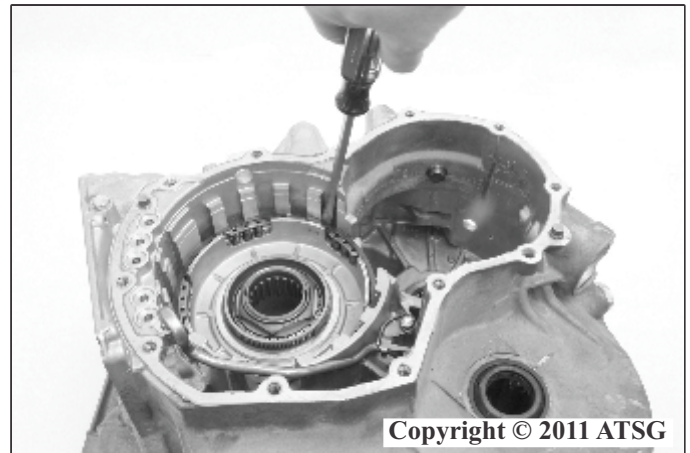

Figure 59
96. Using a screwdriver remove the low and reverse clutch piston return spring retaining snap ring as shown in Figure 59.
97. Remove the low and reverse clutch piston return spring as shown in Figure 59.
98. Remove the low and reverse clutch piston as shown in Figure 59.